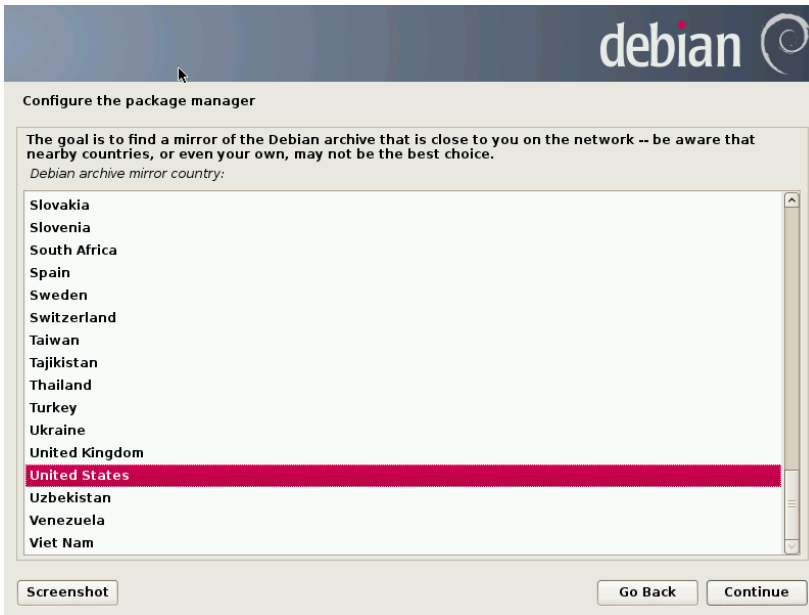

Fig. 62 Select debian package archive mirror
- Choose the debian archive mirror country (Fig. 62), server and HTTP proxy. Debian mirror is used to update installed debian system packages or install additional packages. This only works when the computer is connected to the Internet. In some cases, update fails even if internet connection is fine and valid mirror is selected. In that case, just continue with installation, update will be done later on as a background task. If HTTP proxy is used, please consult the settings with your network administrator.